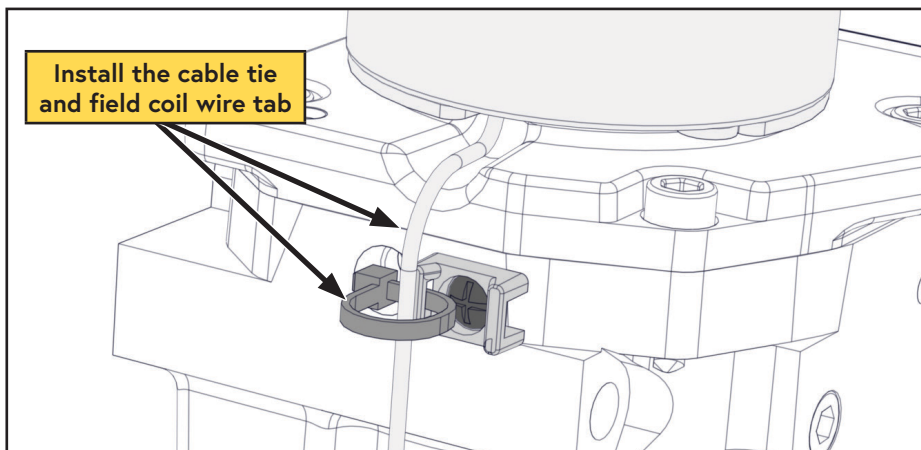

**Figure 27 — Install upper snap ring**
- ☐ Install the upper (smaller) snap ring with the opening at the 12 o'clock position and the larger tab to the right (Figure 27).